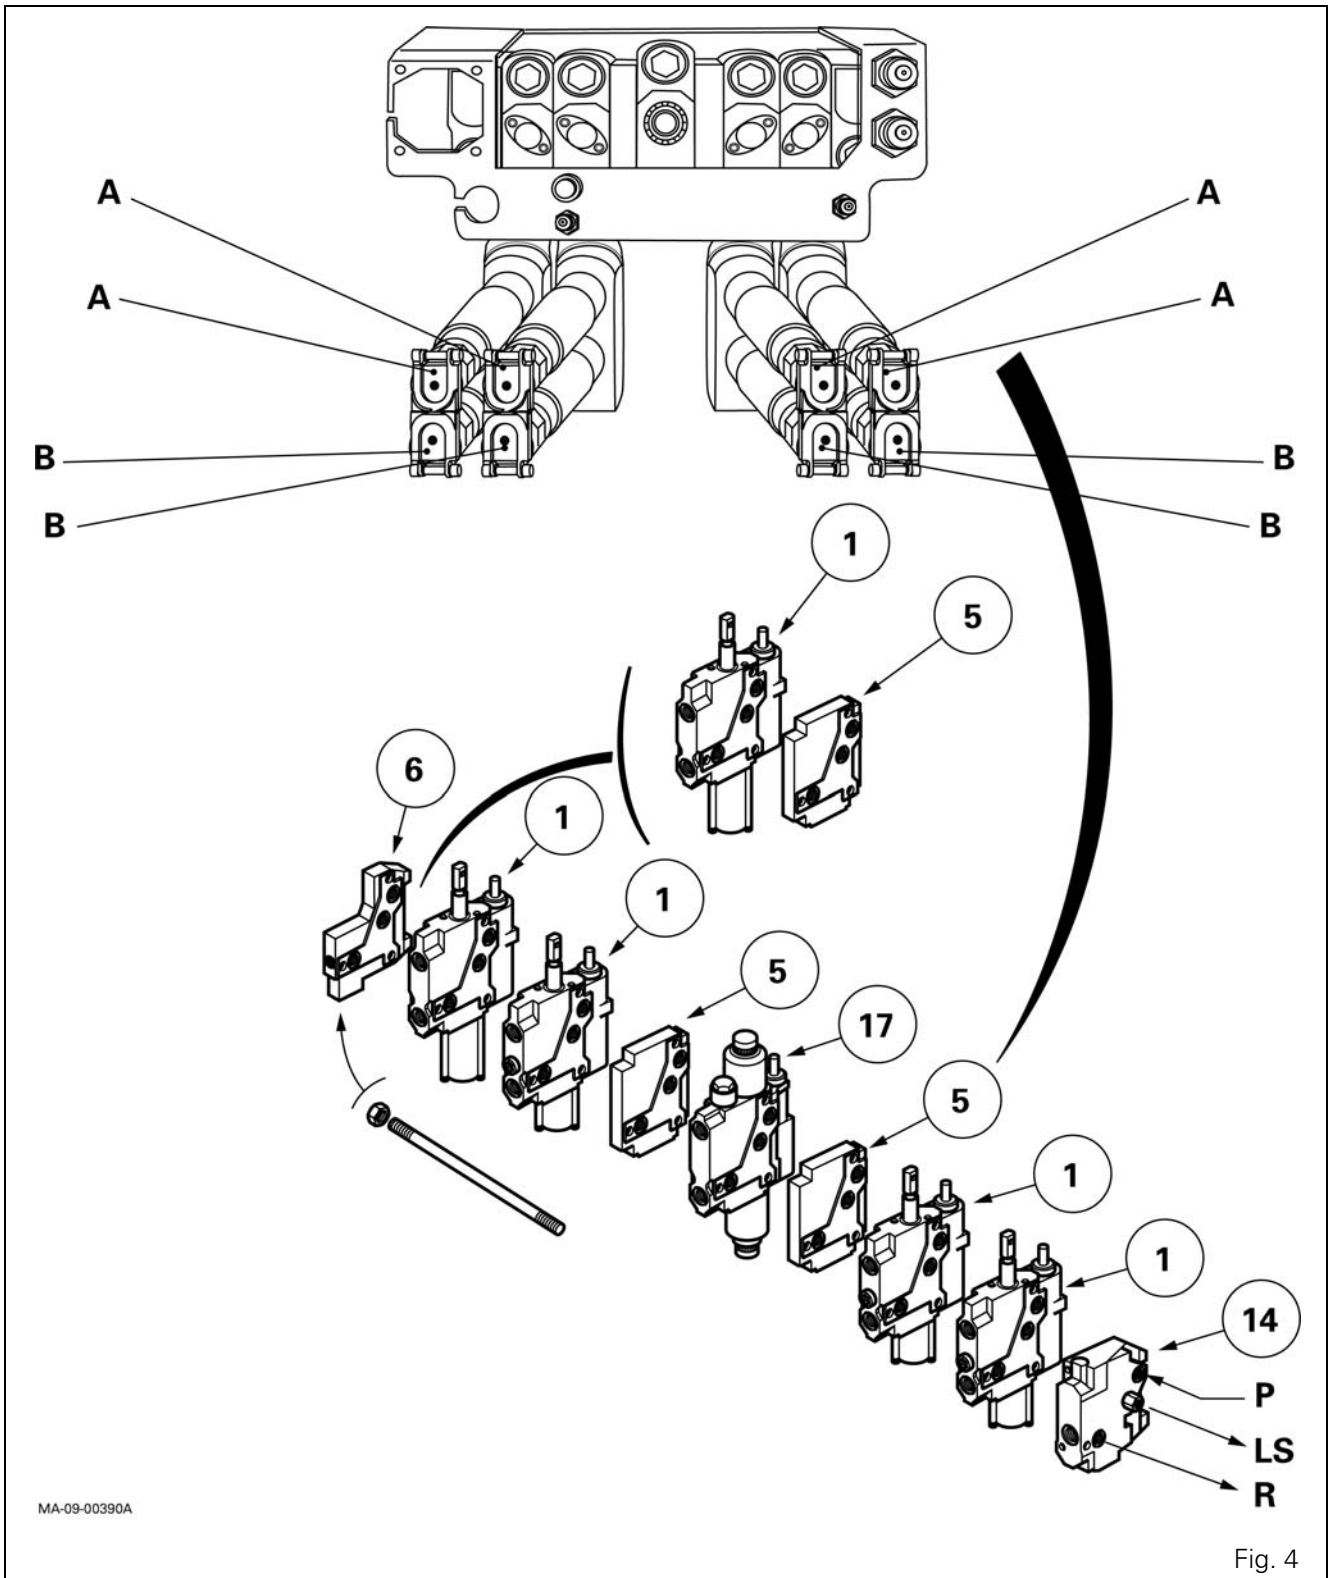

Fig. 4
... on the inlet block (14) (Fig. 4)
Parts list (Fig. 4)